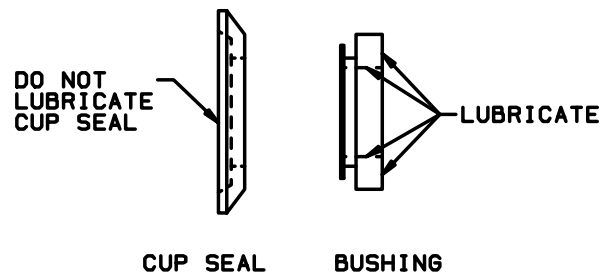

Figure 7-1 Lubricate Bushing
1. Assemble the cup seal on the bushing to complete the beater shaft seal assembly (see figure 7-1). Apply a thin film of an approved sanitary lubricant to the internal surface and the face of the plastic bushing opposite the bell-shaped portion of the seal assembly. Do not allow any lubricant to come into contact with the bell-shaped rubber cup portion of the seal assembly.